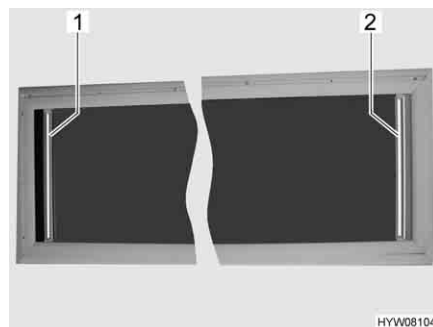

Fig. 86 Hinged sunroof
*Closing:* ■ Grip the Roman shade (Fig. 86,2) in the centre of the holding bar, pull it out and release it at the required position. The Roman shade will stay in that position.
- Grip the Roman shade (Fig. 86,2) in the centre of the holding bar and slowly push it to its initial position.
- Grip the insect screen in the centre of the holding bar (Fig. 86,1), pull it out and release it at the required position. The insect screen will stay in that position.